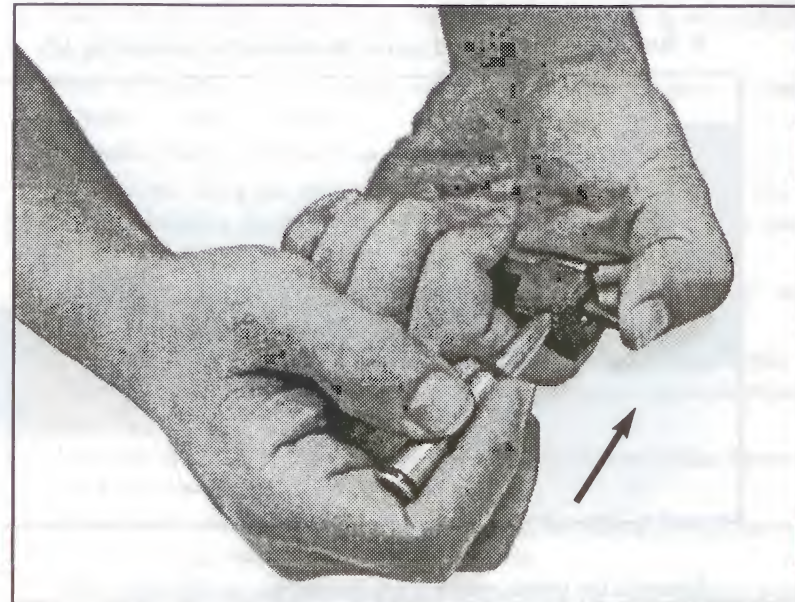

Fig. 16
6. To remove the firing pin, press on the rear end of the firing pin, push out the retaining pin; if the pin does not fall out easily, use the nose of a cartridge see (fig 16).
- Replace the firing pin spring and the firing pin in the bolt carrier (fig. 16, 17); compress the spring by working the firing pin and replace the pin.